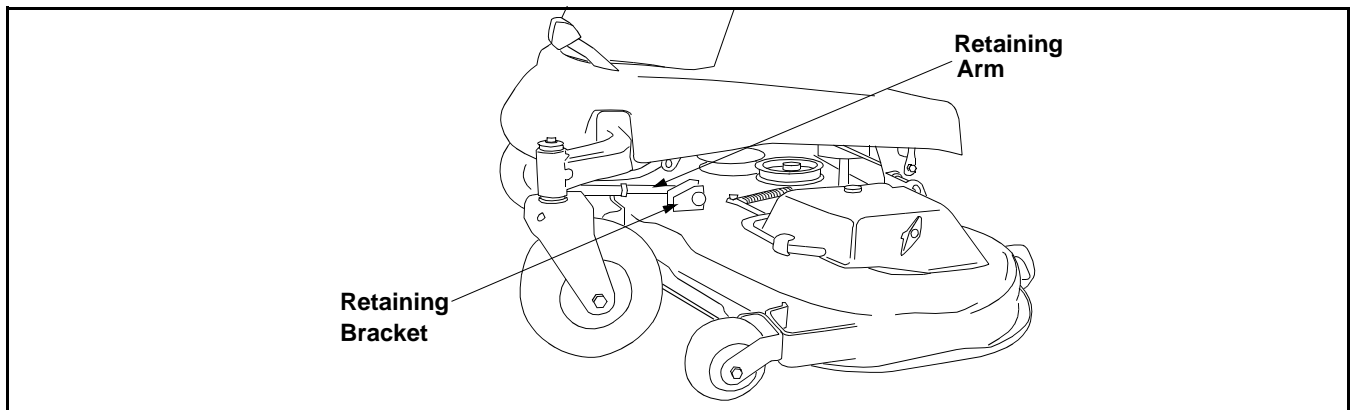

Figure 26
15. From the front of the Z-series, pull the mower deck towards you. This will release the retaining arms from the mower deck. (See Figure 26)
6. Slide the mower deck backwards to insert the retaining arms into the brackets. (See Figure 26)